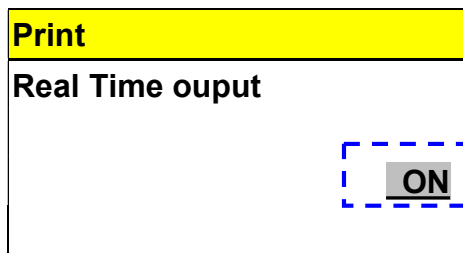

Figure 136
B. Press  button to the editing mode as shown in Figure 136.